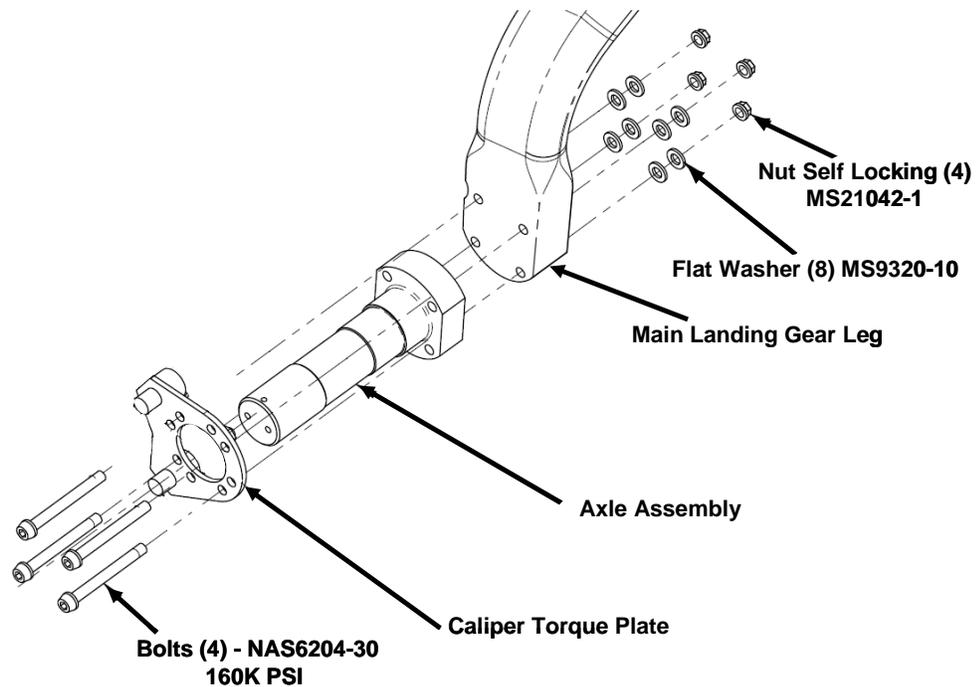

Figure 32-36 Caliper Torque Plate Installation
3. Install the caliper torque plate and main leg axle assembly with four (4) NAS6204-30 internally wrenching bolts, nuts and washers as shown in Figure 32-36.